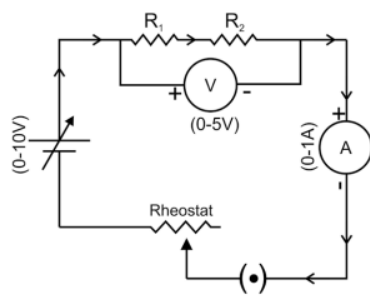

Fig P7.1
1. Connect the circuit according to the circuit diagram (Fig. P7.1) with  $R_1$  only.
8. Connect the two resistances  $R_1$  and  $R_2$  in series combination as per the circuit diagram (Fig. P7.1).